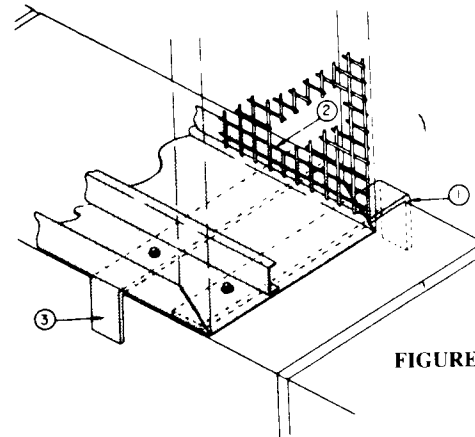

FIGURE 1
(a) Bolt four (4) mounting anchors (See No. 1 in Fig. 1) to louver frame. Turn ear of anchor to catch edge of masonry wall. Locate bolt in round holes in louver frame and into threaded hole near straight end of anchor.
(b) Place louver in wall opening with bird screen to outside. Louver face should be recessed approximately 1" from face of outside wall. (See No. 2 in Fig. 1)
(c) Place four (4) additional mounting anchors between masonry and louver frame with ear of anchor turned to catch inside edge of wall. Locate bolt in slotted hole and adjust anchors to hold louver securely. (See No. 3 in Fig. 1)